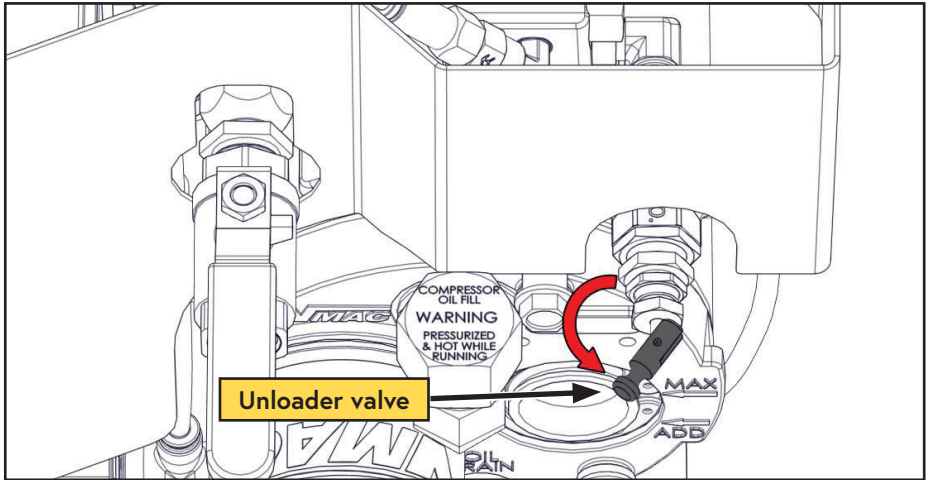

Figure 20 — Unloader valve
- 6) Actuate the unloader valve by pulling out the handle (Figure 20).